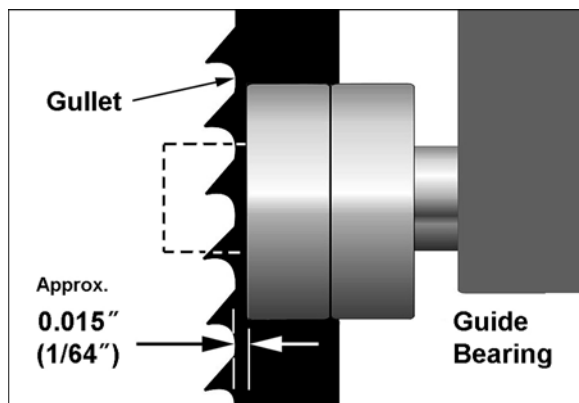

Figure 7-17
- Slide entire guide bracket until front of guide bearings are about 0.015" (1/64") behind the blade's gullet (curved area at base of tooth). See Figure 7-17.